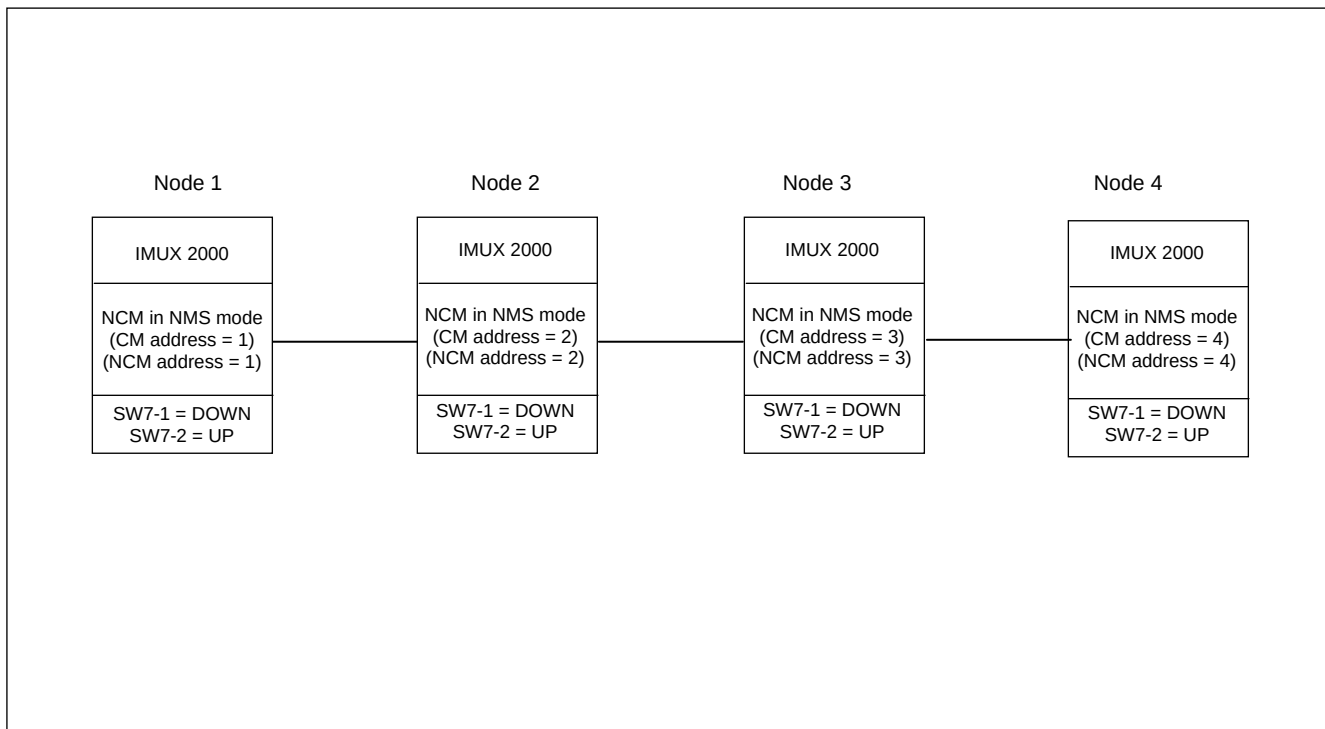

Figure 6. Typical network example with all nodes having an NCM module
15. Switches SW7-1 and SW7-2 are only used when the NCM module is in the NMS application mode. In all other application modes these switch settings are ignored. Use DIP switches SW7-1 and SW7-2 to set the CM address Pass Setting in accordance with Table 1. Typically, if all the nodes in a T1/E1 network have an NCM as shown in Figure 6, the address Pass Setting will be set to only pass messages with addresses equal to the local CM address of the NCM. This feature prevents the local node from responding to queries sent to remote nodes.